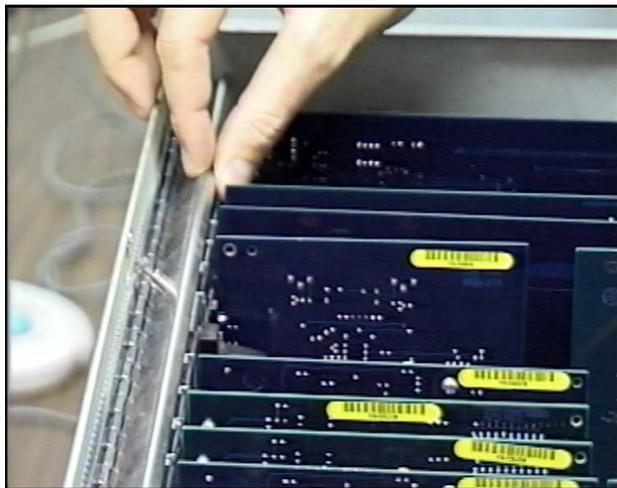

Figure 4.13: The Rear Lock-Down Panel
7. Locate the lock-down panel that holds the backs of the cards in place (Figure 4.13). It is on the inside of the back of the unit. It is hinged in place and held down with three thumbscrews.